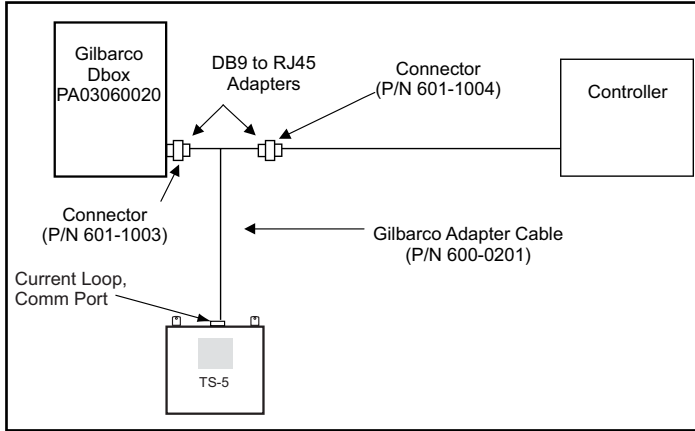

Figure 3: Connecting to Gilbarco D-Box PA03060020
- If the Gilbarco system uses a PA03060020 D-Box, disconnect the Gilbarco console/controller from the distribution box and connect the Gilbarco style Dispenser Interface Cable (600-0201) to the Gilbarco D-Box between the two supplied adapters (p/n's 601-1003 and 601-1004). Connect the long end of the Gilbarco style Dispenser Interface Cable (600-0201) to the TS-5 series CURRENT LOOP communication port (Figure 3).